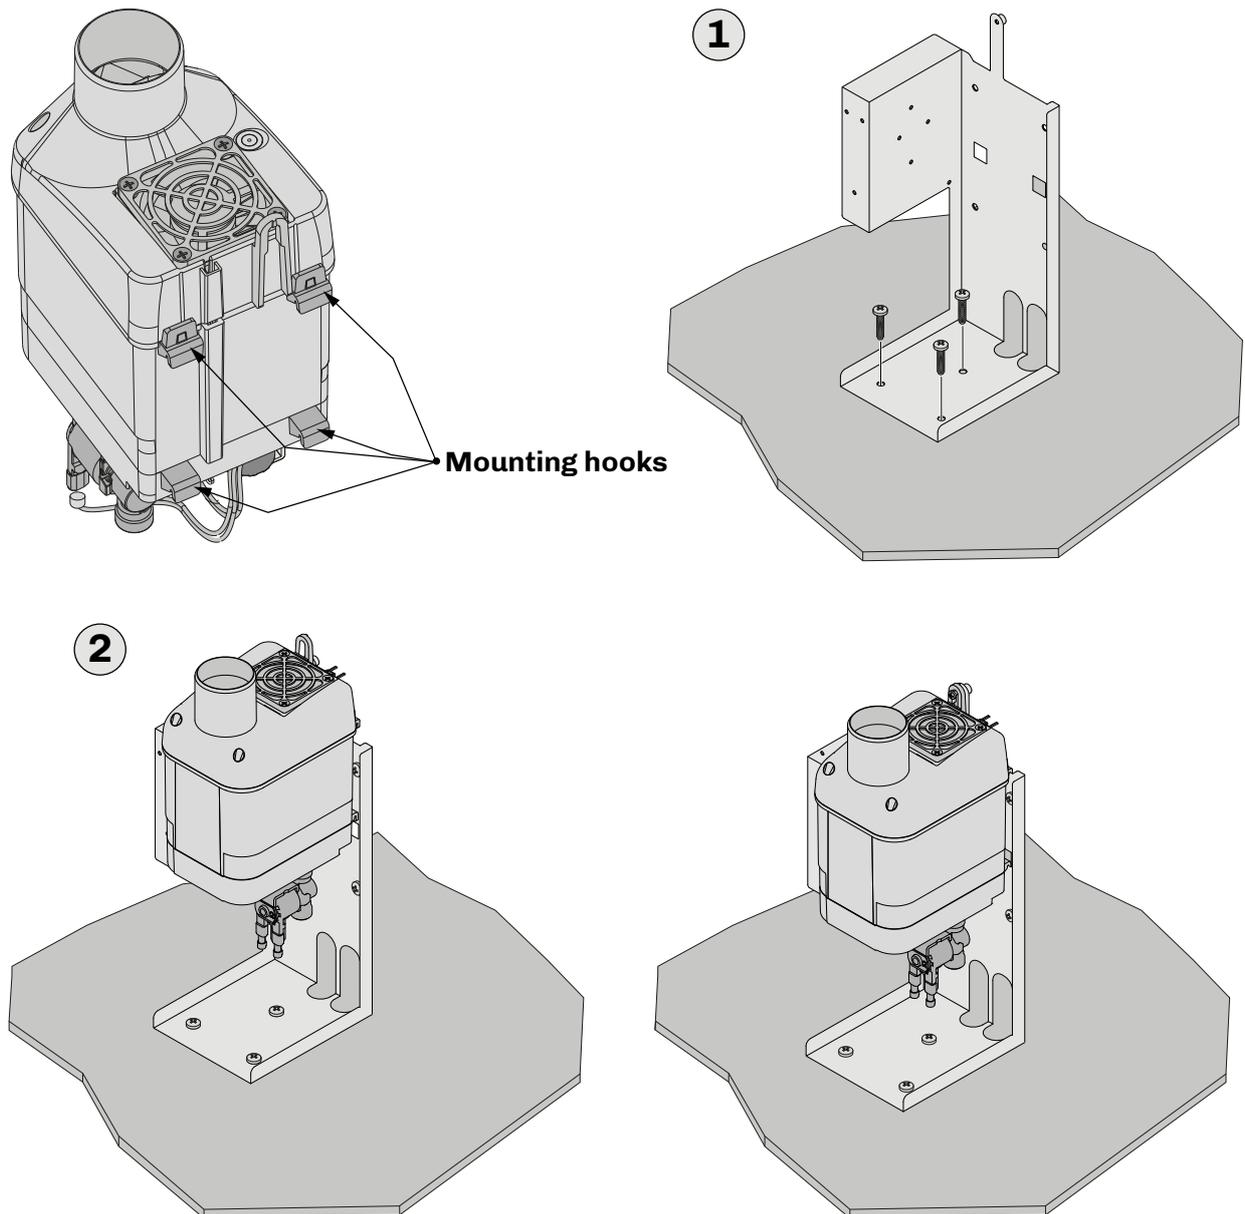

Fig. 11. Instructions for mounting the box on a supporting base
- Secure the box to the base following the instructions given in the picture **“FIG. 11. INSTRUCTIONS FOR MOUNTING THE BOX ON A SUPPORTING BASE” ON PAGE 25** and the dimensions of the holes and box given in the subsection **“4.3.2 DIMENSIONS OF MISTRAL WITH BOX” ON PAGE 18 (1)**;